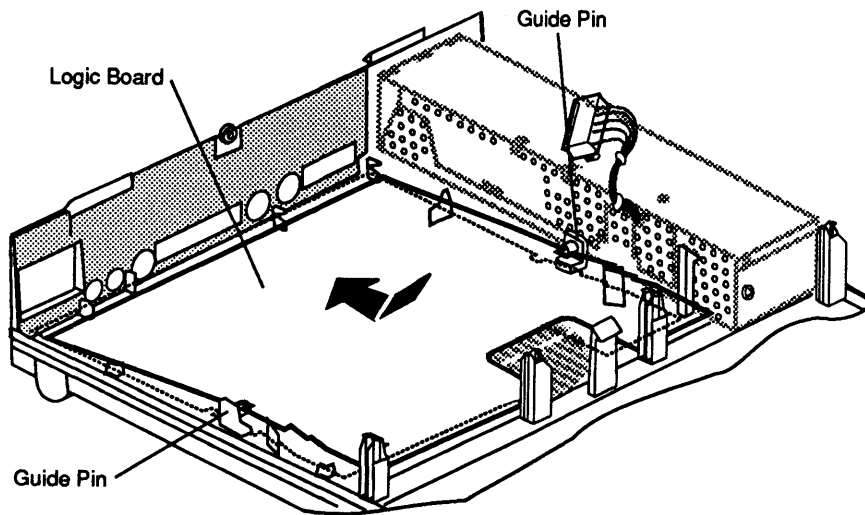

Figure 2-12 Installing the Main Logic Board
2. **Figure 2-12.** Insert the logic board into the bottom case so that the round slots in the logic board fit over the plastic guide pins on the bottom of the case.
4. **Figure 2-12.** Connect the following connectors to the logic board: